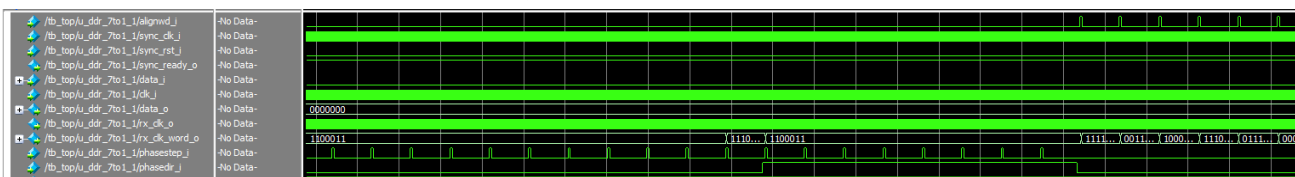

**Figure 3.5. Adding and Reordering Source**
- Click **Next** to open the **Add and Reorder Source** window as shown in Figure 3.5.